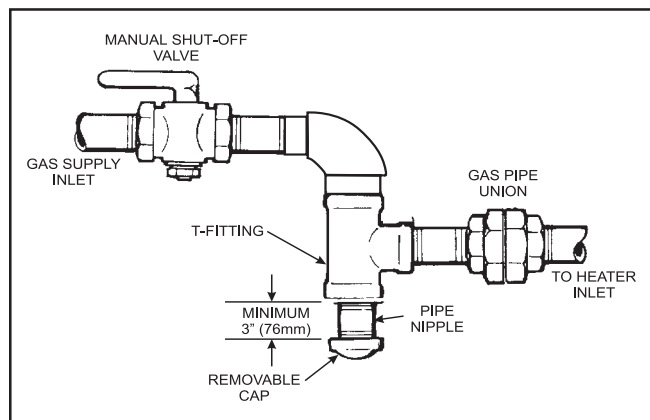

Figure 5. The proper design for a sediment trap/drip leg.
4. Install a sediment trap (drip leg) ahead of the gas controls (see Figure 5). Fit the trap with a threaded cap which can be removed for cleaning.